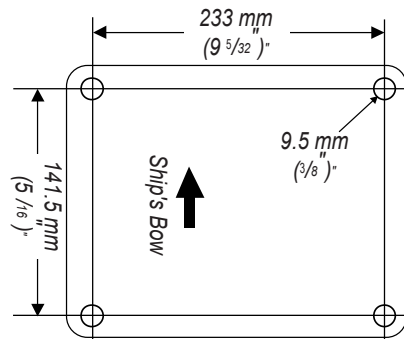

Figure 1
1. When a suitable mounting location is determined, verify that the mounting hole locations are aligned fore and aft, and use the included mounting template or reference Figure 1 to drill four 9.5 mm ($\frac{3}{8}$ ") mounting holes. (This step is not necessary if you are using a pre-drilled Garmin compatible or Raymarine® mount.)